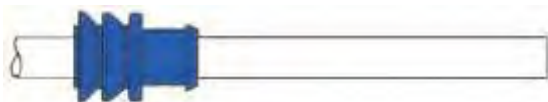

Figure 73
- Insert blue wire seal over wire and position far enough up wire to allow wire to be stripped (Figure 73).